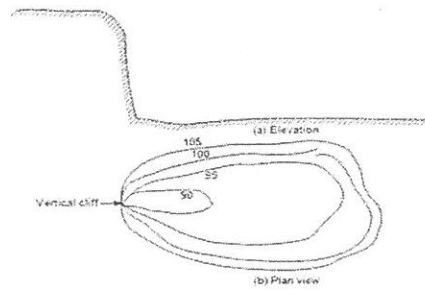

Fig. 3
11. If contour lines are meeting in some portion, it shows existence of a vertical cliff. (Fig. 3)